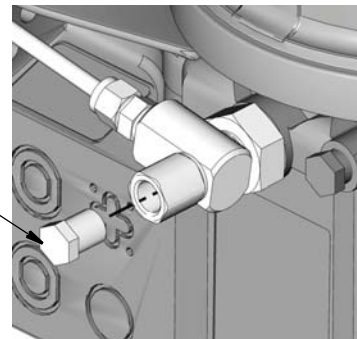

FIG. 20
10. Tighten banjo bolts (6) to 35 ft. pounds (45.7 N•m) at each location.
11. Apply thread sealant to threads of plug (10). Install plugs in unused outlet locations (FIG. 20).